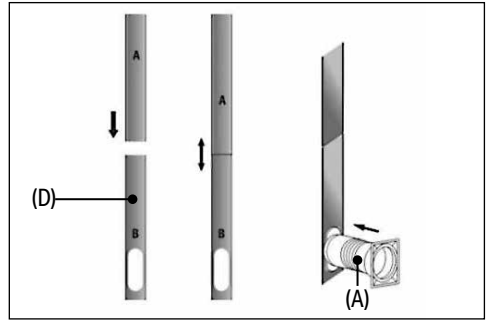

Fig. 3
3. Extend the window kit (D) to the length of your window and connect to the exhaust hose. Fig.3